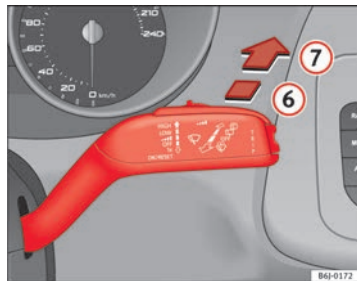

Fig. 65 Windscreen wiper and windscreen wash lever: rear window wiper
- Press the lever forwards to position **6** ⇒ Fig. 65. The wiper will wipe the window approximately every 6 seconds.
- Press the lever fully forwards to position **7** ⇒ Fig. 65. The rear wiper and washer operate at the same time. The windscreen wash system will function as long as you hold the lever in this position.